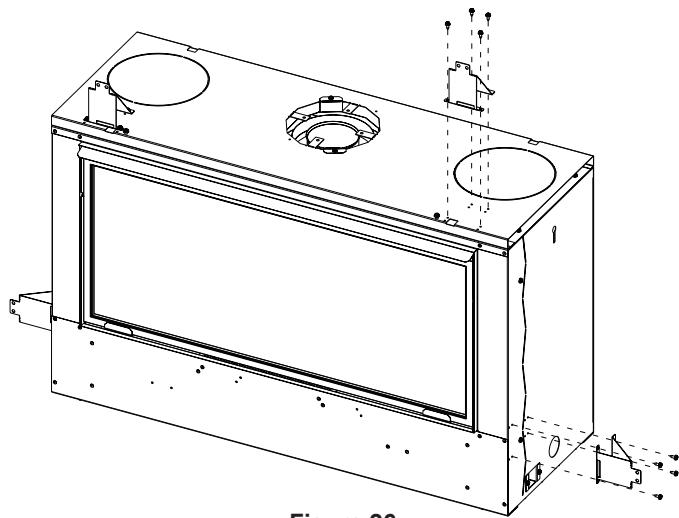

Figure 26
3. Retrieve the four framing brackets from hardware pack and hand bend them into a V shape as shown in **Figure 26**.
4. Attach framing brackets to the fireplace with included #10 X 1 1/2-inch screws. Brackets can be either flush to the fireplace or set back 1/2-inch, according to the desired finishing method. **See Figures 26, 31 and 32.**